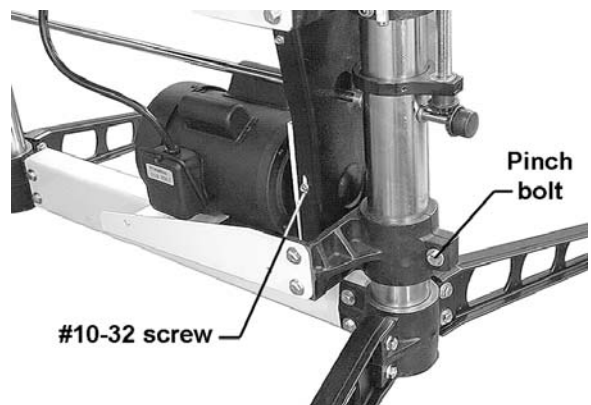

Figure 21
3. Insert the gauge between the drum and conveyor bed at one end of the drum (Figure 21). Raise the conveyor bed while slowly rotating drum by hand until the drum lightly contacts the thickness gauge.
1. Release v-belt tension from motor by loosening pinch bolt of motor support (Figure 21).
2. Loosen two lower #10-32 screws in belt guard (Figure 21 shows one of the screws). Slide motor support up the column and re-tighten pinch bolt.
6. In this position, the drum should be resting on the templates and both tension rollers resting on the conveyor surface. Re-tighten bearing bolts and restore v-belt tension. Tighten pinch bolt in motor support and tighten two lower screws in belt guard (Figure 21).